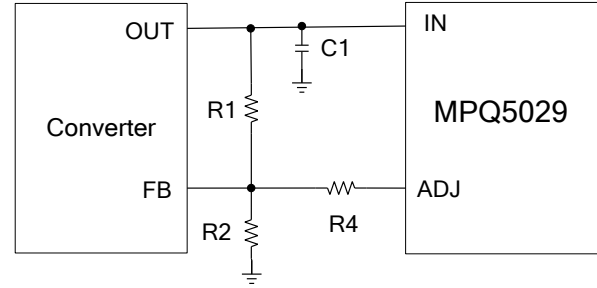

Figure 4: ADJ Configuration
Figure 4 shows the typical ADJ usage. The ADJ sink current capability is 500μA. ADJ requires a feedback current through R1 less than 500μA. Calculate R1 with Equation (1):